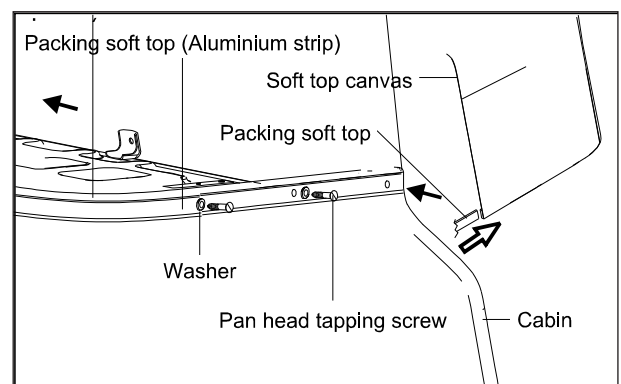

Fig. 9.15
- Ensure that the rear bottom part of the soft top canvas stretches equally at the right hand side & left hand side. (Fig. 9.15)
- Drill  $\text{\O}3$  mm drill at 11 place with regular interval ( $235 \pm 10\text{mm}$ ) as per the (Fig. 9.15).